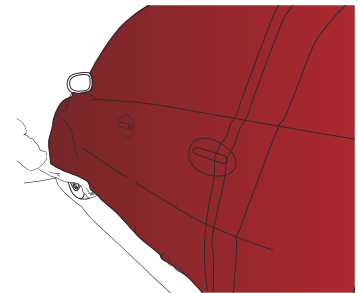

Figure 21
- › Stretch the film over the door handles and, using a squeegee, apply the film all around the door handles. Once the door handles are done, stretch the film down up to the bottom of the vehicle body. (FIG. 21)